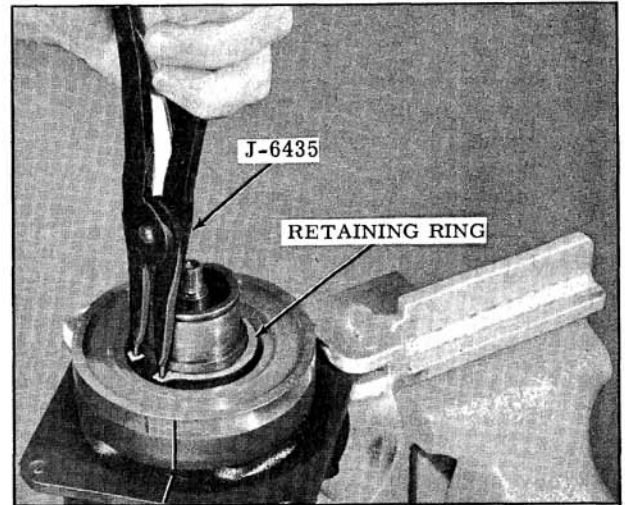

Fig. 14-91 Removing Coil Housing Retaining Ring
2. Remove the clutch coil housing retaining ring with Tool J-6435. (Fig. 14-91)